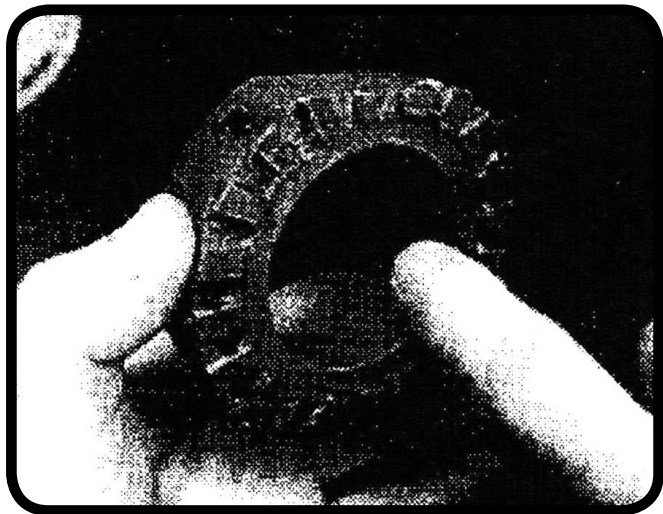

Figure 4
1. Coat the teeth of the couplers and drivers, the large center holes of the drivers (**Figure 4**), and both sides of the thrust washers with medium grease. Also place a little grease in each of the two window holes in each driver. The grease will help hold things in place and assist with functioning until the gear oil circulates.